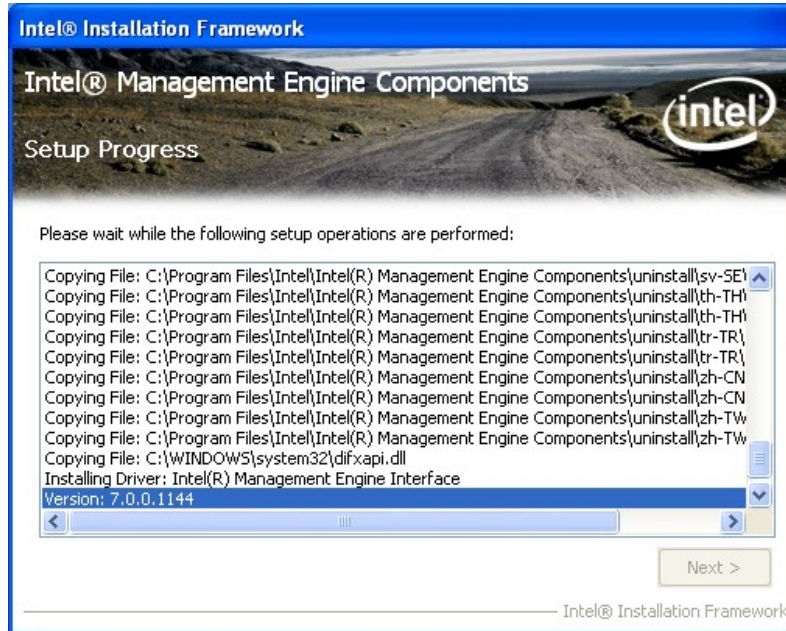

Figure 6-32: Intel® ME Driver Setup Operations
Step 12: Setup Operations are performed as shown in Figure 6-32.